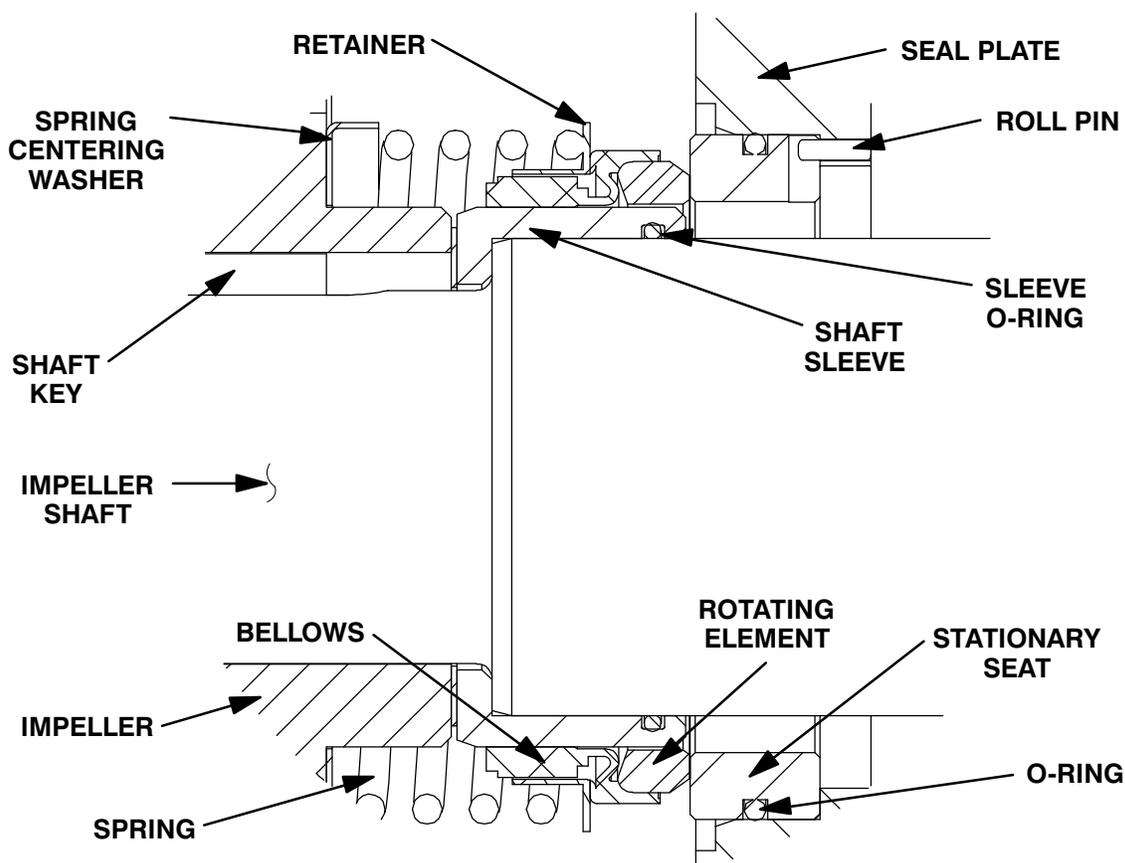

Figure 11. Seal Assembly
To ease installation of the seal, lubricate the stationary seat O-ring, the I.D. of the bellows and the O.D. of the shaft sleeve (7) with "P-80® Emulsion" or water. **Do not** use oil or any substitute lubricant other than water. Apply a drop of light lubricating oil on the finished faces. Assemble the seal as follows, (see Figure 11).